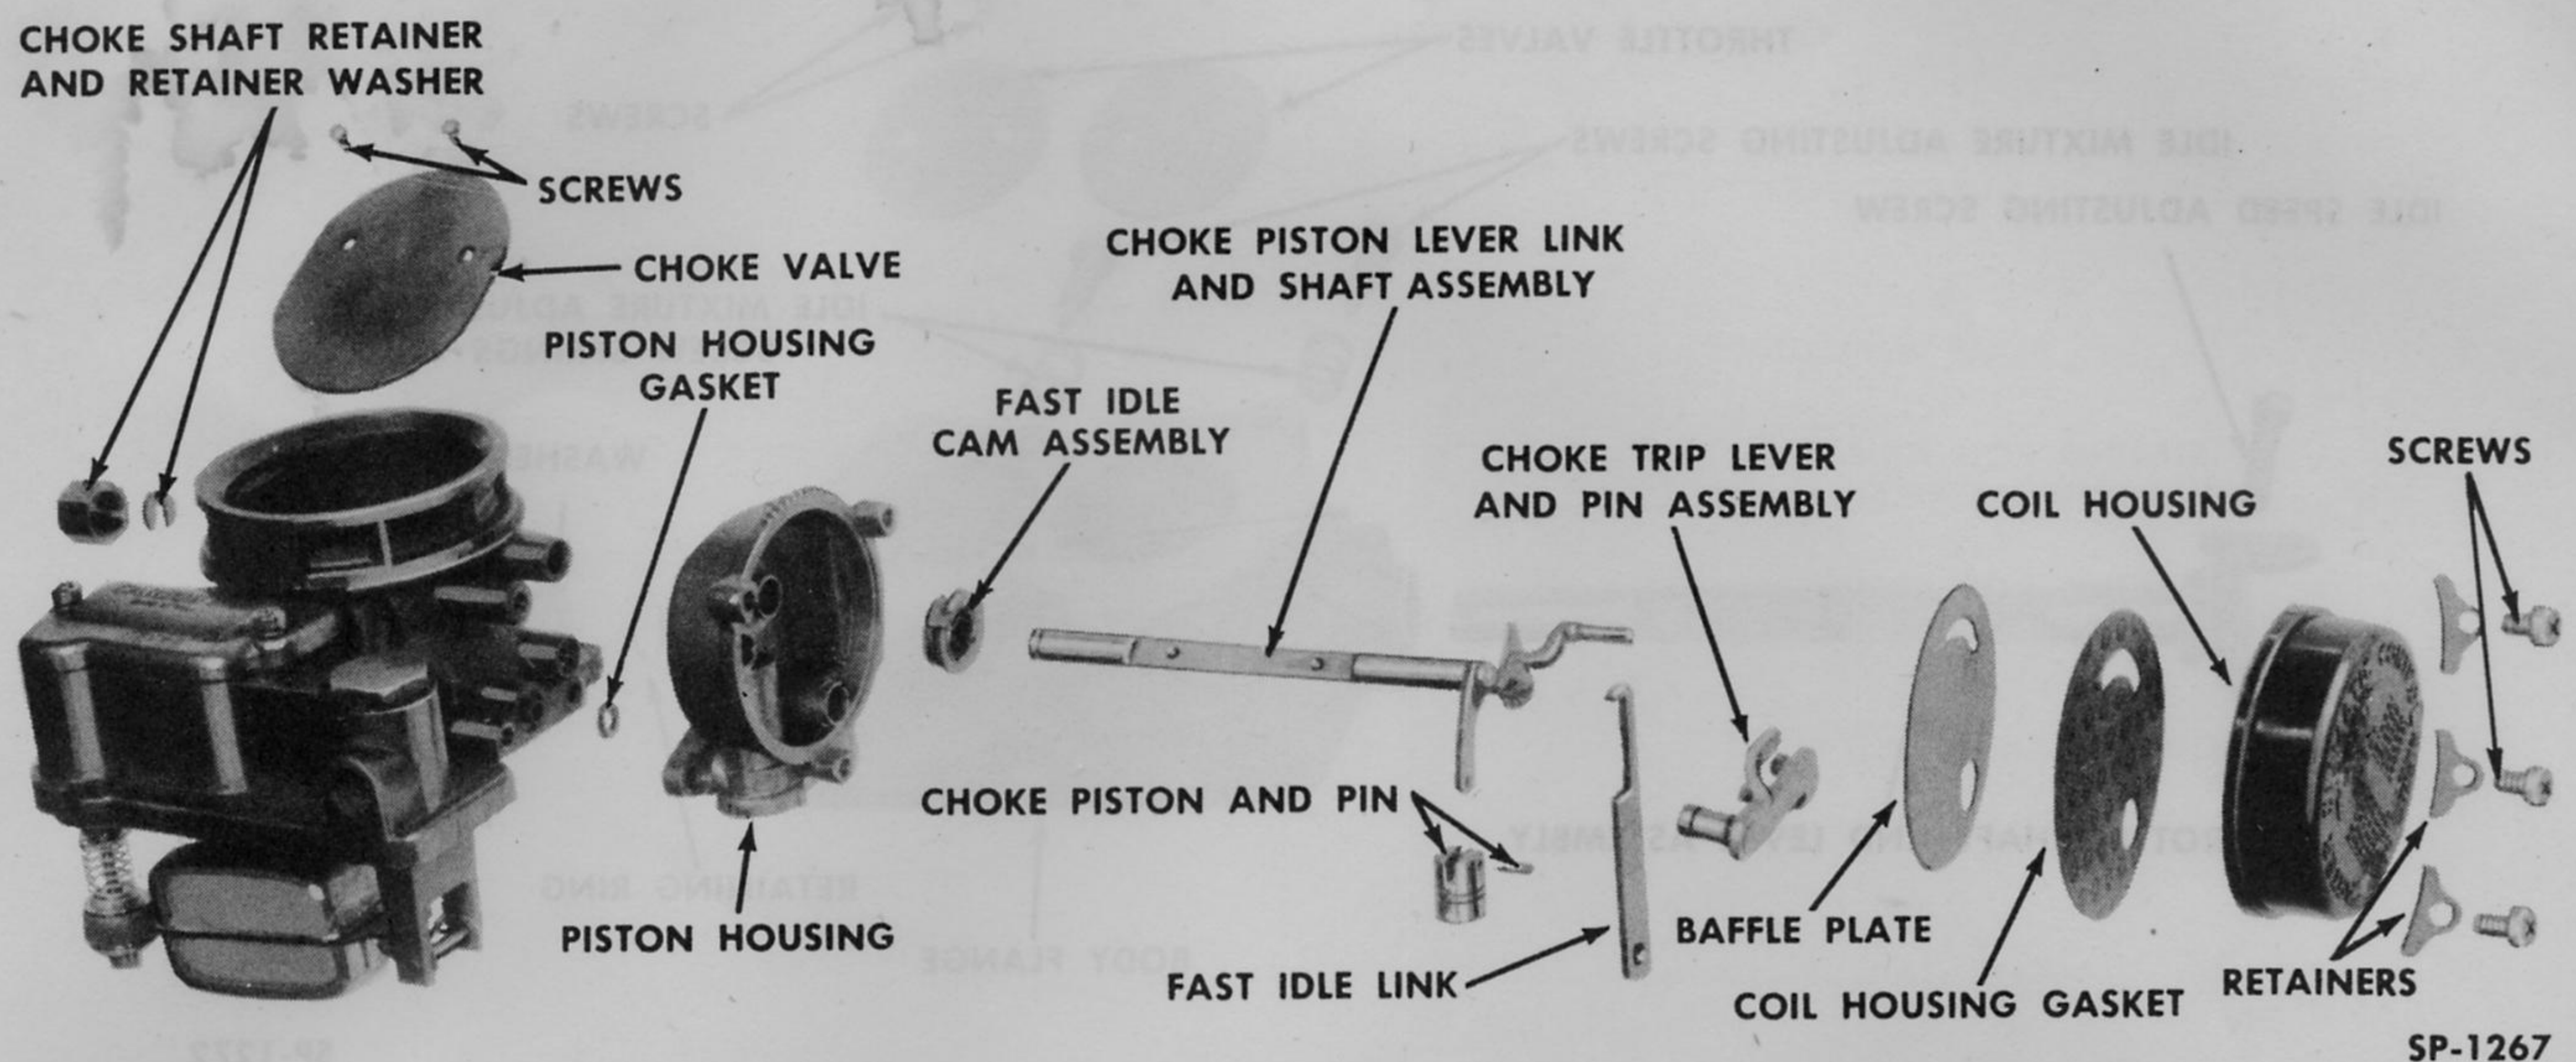

Fig. 125—Choke Assembly—Exploded View (WGD-781S and 813S)
Remove the three screws and retainers that attach the climatic control housing and coil to the air horn. Lift the housing, gasket and baffle plate from the air horn. Lift the choke trip lever and pin assembly from the housing (Fig. 125). Remove the fast idle link from the underside of the housing. Remove the two screws that attach the choke valve to the shaft and remove the valve. Remove the choke shaft nut and retainer from the shaft. Shake the choke piston pin out of the piston and lever. Remove the choke shaft assembly from the air horn. Remove the choke piston from the housing.
(b) **Choke Assembly** (Fig. 125). Replace the choke valve if it is bent or damaged in any way. Replace the climatic control housing and coil if bent or damaged or if the thermostatic coil is broken. Replace the choke piston if scored, worn or broken. Replace the choke trip lever or the fast idle link if worn or damaged.
1. Assemble Air Horn (Fig. 124). Install the choke piston in the housing. Install the fast idle cam and shaft assembly in the air horn and secure in place the retainer washer and nut. Hold the choke valve in place and install the two hold down screws. Hold the valve in the closed position while tightening the screws to center it in the air horn. Install the fast idle link and choke trip lever in the housing (Fig. 125).